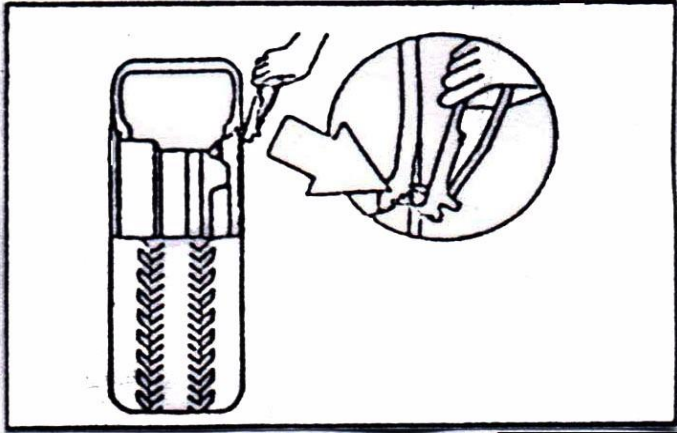

FIG18
4.1.1 Deflate the air in the tire completely and pull out the core. Use the special tool to detach the weight on the rim (FIG18).